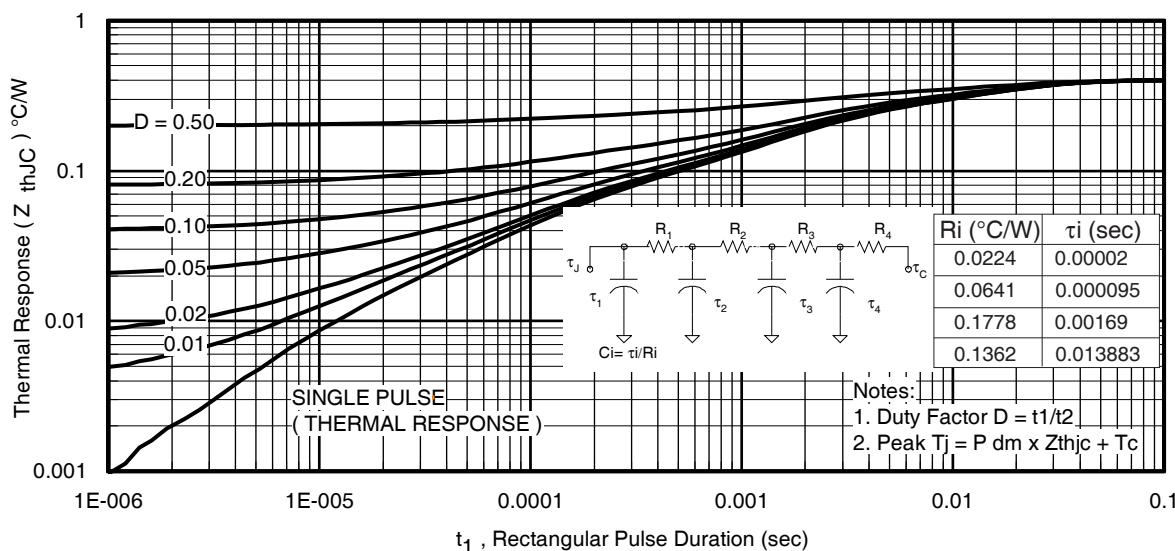

Fig 11. Maximum Effective Transient Thermal Impedance, Junction-to-Case
- ① Repetitive rating; pulse width limited by max. junction temperature. (See fig. 11).
- ② Limited by  $T_{\text{Jmax}}$ , starting  $T_J = 25^\circ\text{C}$ ,  $L = 0.025\text{mH}$ ,  $R_G = 25\Omega$ ,  $I_{\text{AS}} = 180\text{A}$ ,  $V_{\text{GS}} = 10\text{V}$ . Part not recommended for use above this value.
- ③ Pulse width  $\leq 1.0\text{ms}$ ; duty cycle  $\leq 2\%$ .
- ④  $C_{\text{oss eff.}}$  is a fixed capacitance that gives the same charging time as  $C_{\text{oss}}$  while  $V_{\text{DS}}$  is rising from 0 to 80%  $V_{\text{DSS}}$ .
$Z_{thJC}(D, t_{av})$  = Transient thermal resistance, see figure 11)